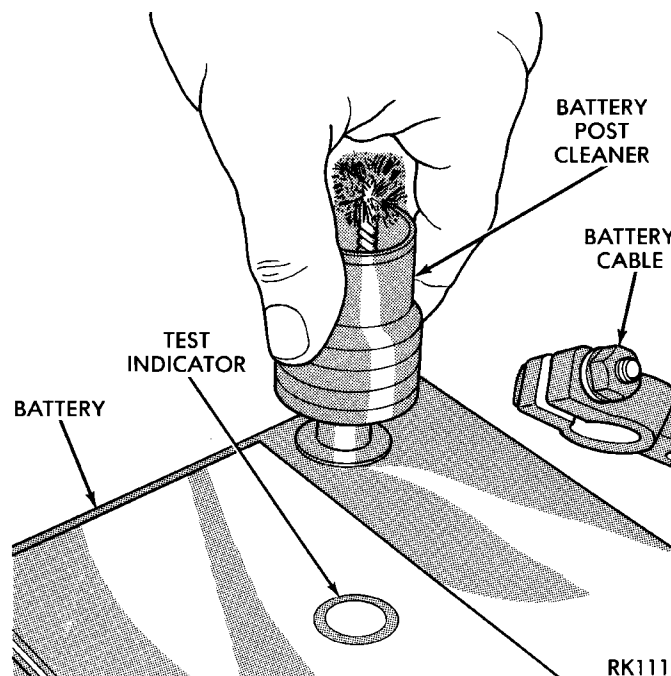

Fig. 16 Cleaning Battery Post
(3) Rinse soda solution from battery with clear water and blot battery dry with paper toweling. Dispose of toweling in a safe manner. Refer to the WARNINGS on top of battery.
(4) Inspect battery case and cover for cracks, leakage or damaged hold down ledge. If battery is damaged replace it.
(5) Inspect battery tray for damage caused by acid from battery. If acid is present, clean area with baking soda solution.
(6) Clean battery posts with a battery post cleaning tool (Fig. 16).